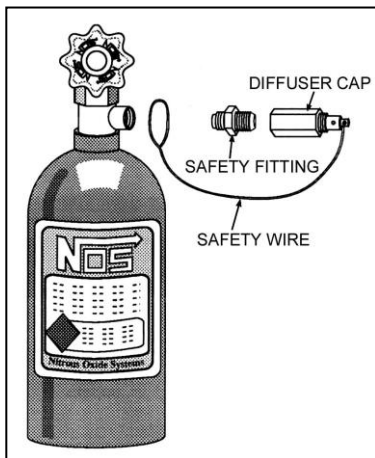
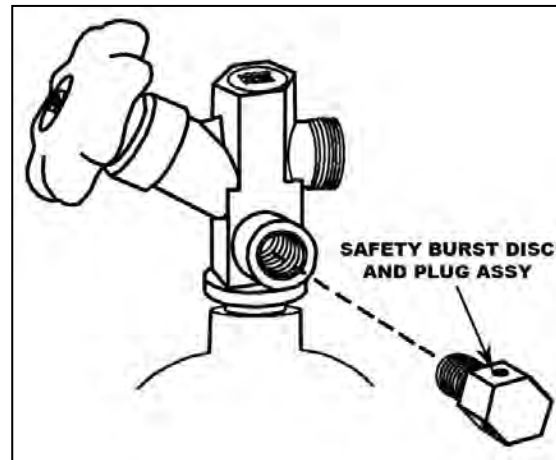

Figure 1
Figure 2
4. Place the new cap and disc assembly or racer safety fitting into the empty port on the valve and hand tighten. Safety Fitting (Fig. 1) or the Racer Safety Fitting (Fig. 2).